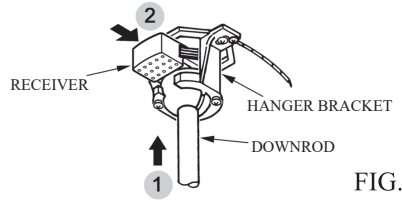

FIG.7
2. Carefully lift the fan and seat the downrod ball assembly on the hanger bracket. Be sure the groove in the ball is lined up with tab on the hanger bracket. Do not pinch wires between the ball and downrod assembly and hanger bracket. (See Fig.7)